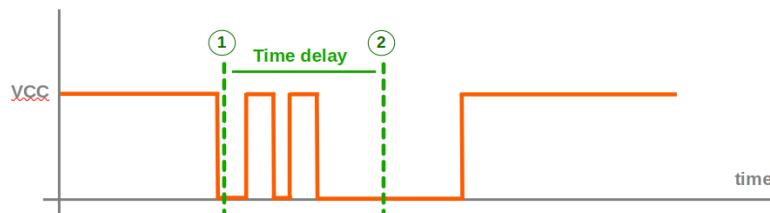

Figure 3: A sample timing diagram for button-input signal
According to the sample timing diagram in **Figure 3**, (1) the MCU detects a signal transition when the input changes from high to low. Some signal bouncing occurs after this transition. (2) After a fixed time delay (e.g. 10–40 msec), the MCU rechecks the input to determine whether it is still logic low. During this delay, rapid high/low transitions caused by contact bounce are ignored. If the signal is still in the pressed state (logic low), it is accepted as a valid button press.